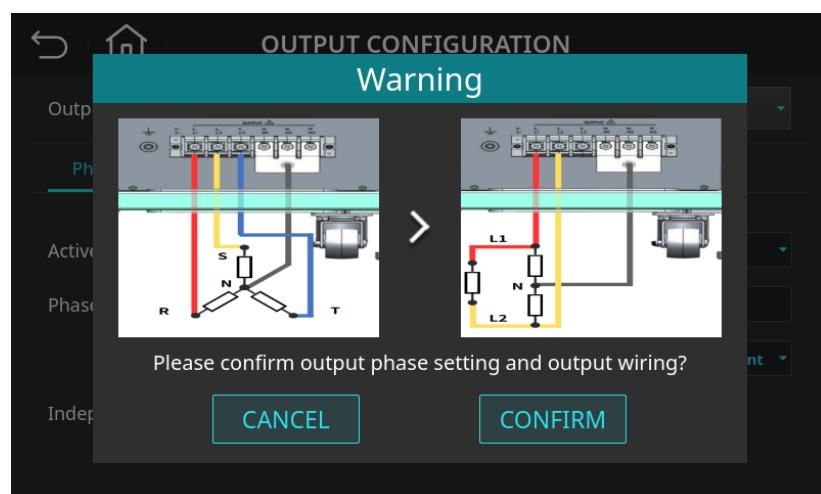

Figure 4-24: Phase Mode Switching Warning Page (Switching from Three Phase to Split Phase)
- After confirming the output wiring is in split-phase mode, press the “CONFIRM” button, as shown in Figure 4-24.